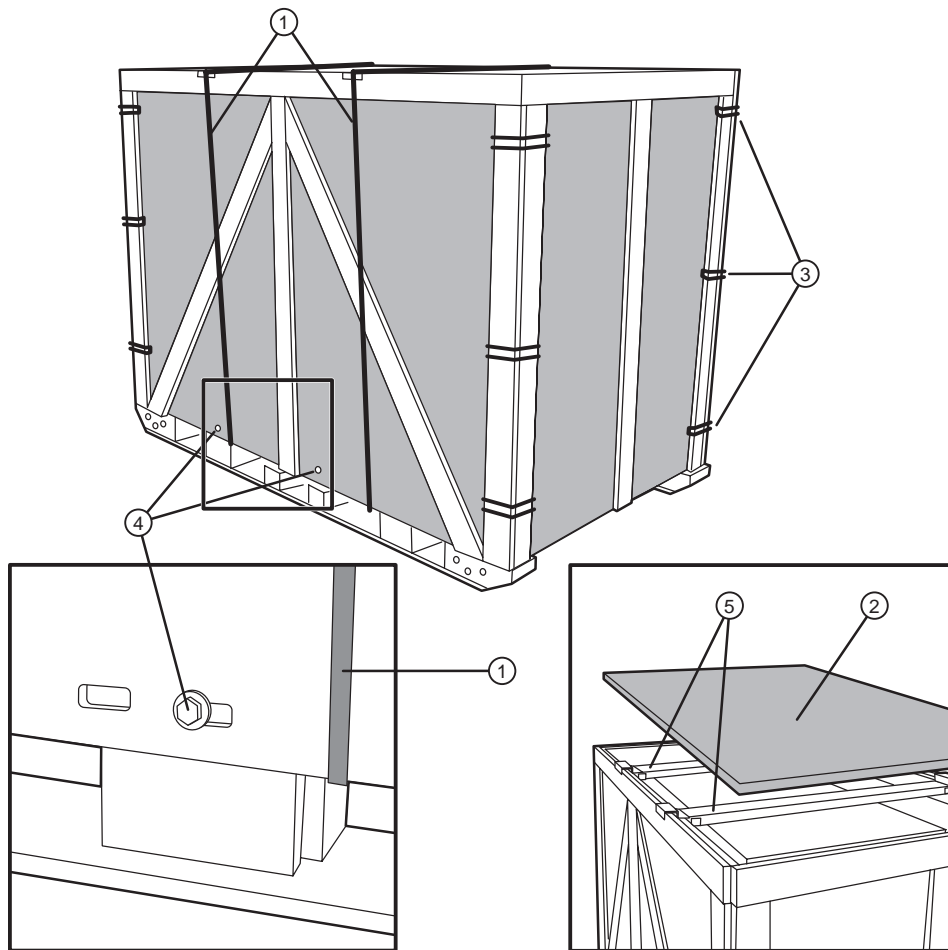

Figure 1-2 Removing the outer shipping crate.
1. Position the crate in the location that the system will be installed. Check for proper clearances around system as listed in *Appendix A: Specifications*. Cut the shipping straps holding the crate panels to the pallet. Refer to Figure 1-2.
2. Remove the top pad. Refer to Figure 1-2.
3. Remove the crossbars, left and right, at the top of the open crate. Refer to Figure 1-2.
4. Remove the two (2) bottom bolts on the front and back of the crate panels. Refer to Figure 1-2.
5. Remove the spring clips (or bolts), three on each end, from the corners of the crate. Remove the four wooden crate panels. Refer to Figure 1-2.